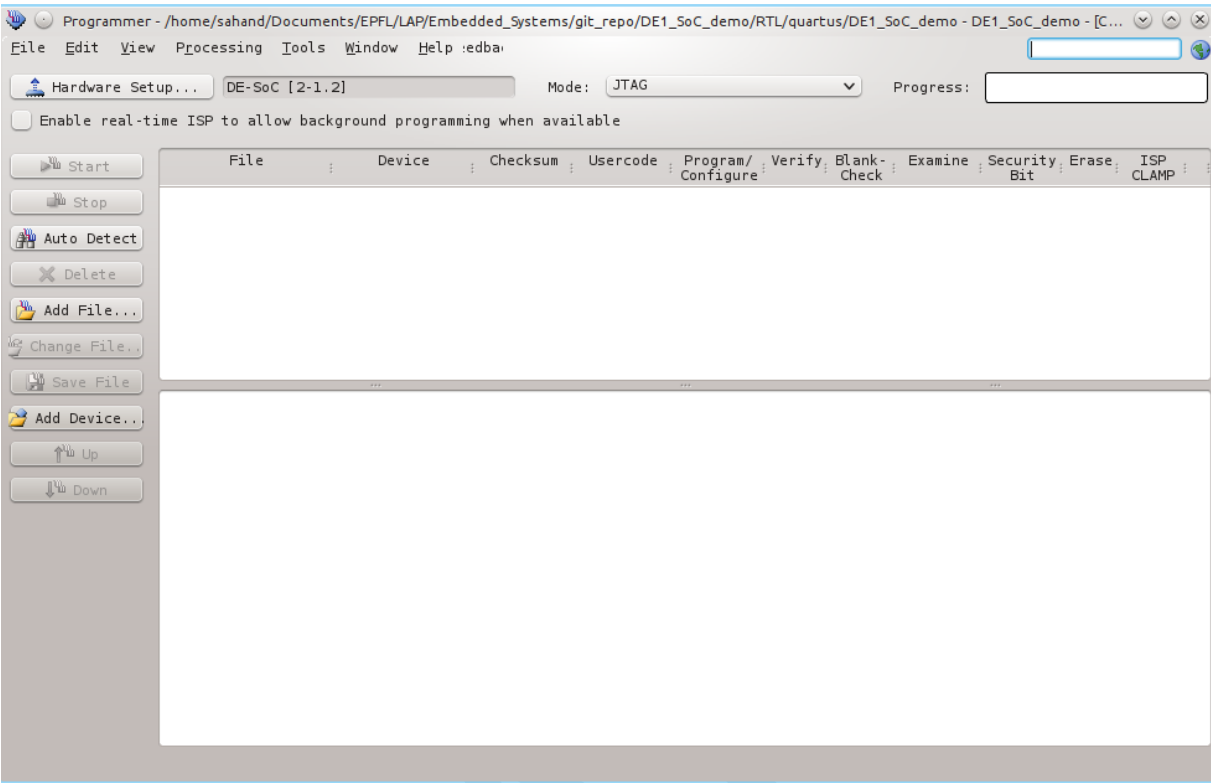
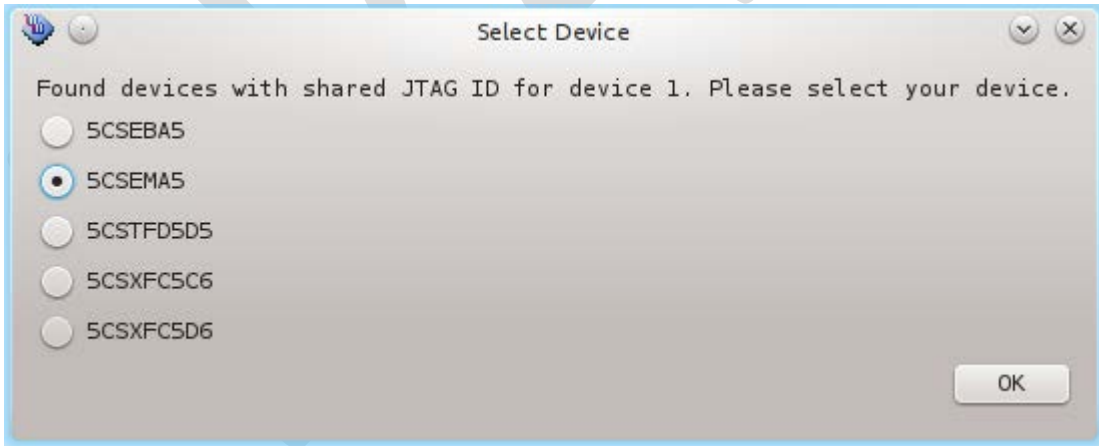

Figure 7-15. Quartus II Programmer
Figure 7-16. FPGA Selection
38. Choose the “Auto Detect” button on the left of Figure 7-15, then choose “5CSEMA5”, as shown in Figure 7-16.